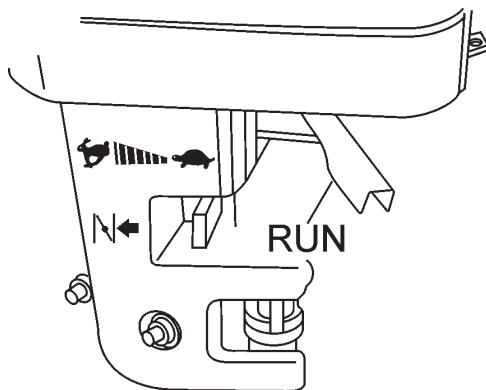

Figure 16. Throttle Lever (Run)
9. To begin compacting, place the throttle lever (Figure 16) in the "RUN" position.